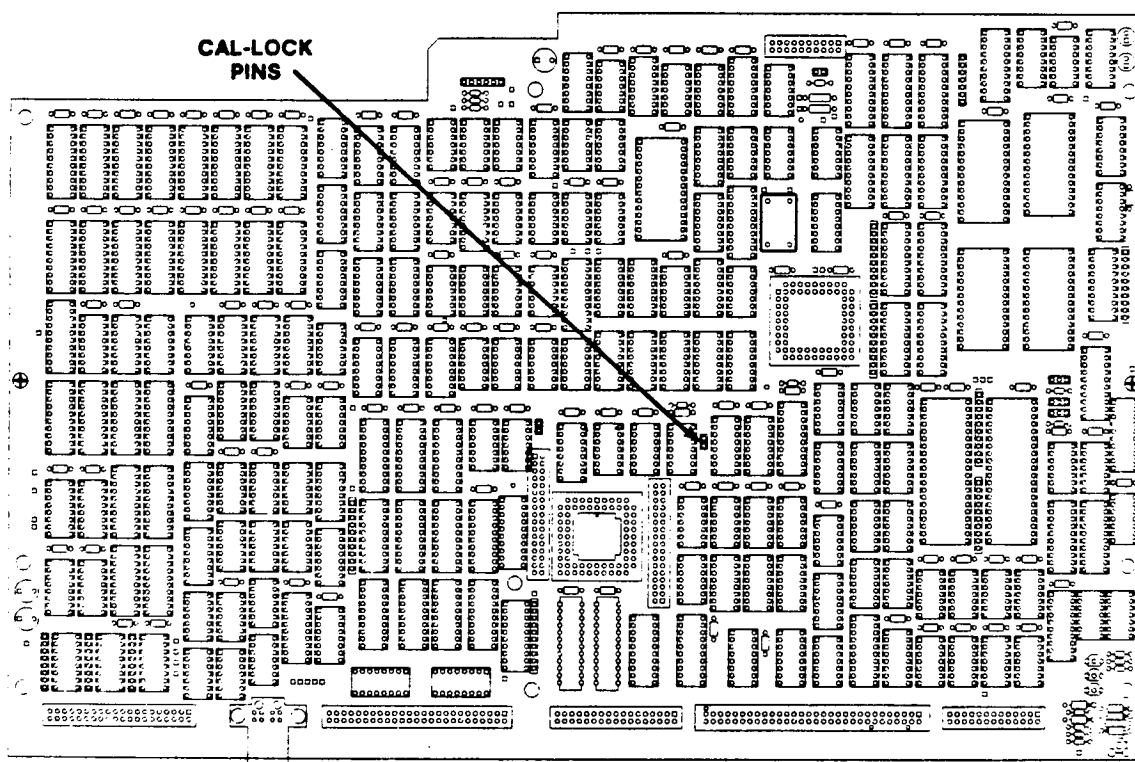

Figure 2. - 11401/11402 Time base ckt bd A6
- () 1. **11401 and 11402.** remove the bottom cover of the mainframe and install a Term Conn Link (shorting strap) on the CAL-LOCK terminals located on the Time Base circuit board A6. Refer to Figure 2, for pin locations.